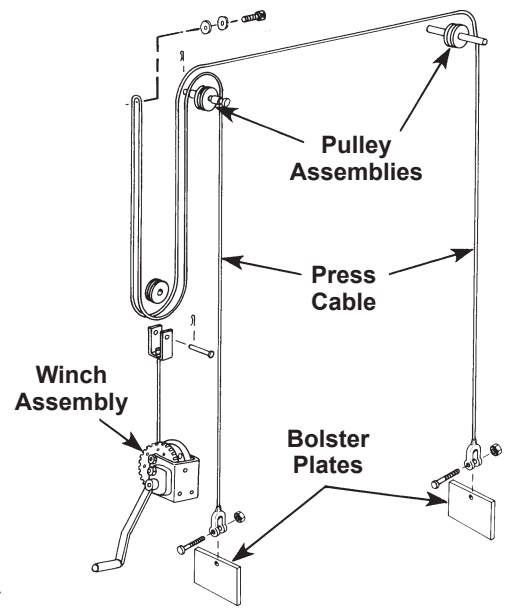

FIGURE 1
IMPORTANT: Make sure the cable attachment holes in the bolster plates are facing up. See Figure 1, to the right.
- Attach a foot angle (13) to each press upright (10 and 23) using cap screws (20), washers (19), and hex nuts (8).
- Attach the spacer angle (14) to the right-hand press upright (10) with a cap screw (20).
- Slide the upright into the end of the bolster assembly (12) until the upright is tight against the bolster plate.
- Slide the left-hand press upright (23) into the other end of the bolster assembly (12) until it is tight against the bolster plate. Then attach the upright to the angle spacer with a cap screw (20).
- Mount one of the upper bolsters (1) to the top of each upright (10 and 23) using cap screws (7) and hex nuts (5). The holes for the cylinder mounting plate (11) must be facing down.
- Install two pulley axles (4) and pulleys (3). The axles each pass through the exposed uppermost mounting hole in their respective upright (10 and 23). Before pushing each axle all the way through to the opposite mounting hole, slide a pulley (3) onto each axle. *Note: Once assembly of the press is complete, lubricate both axles using a general purpose grease.*
- Mount the remaining upper bolster to the uprights using cap screws (7) and hex nuts (5).
- Assemble a cap screw (2), two washers (24), and a nut (22) to the pulley bracket located at the top of the left-hand upright. To allow the cable to be installed later on, only hand thread the nut onto the screw a few turns at this time.
- Attach the winch assembly (21) to the mounting plate on the left upright using cap screws (18) and hex nuts (22). Wrench tighten the mounting hardware.
- Attach one end of the cable (7, sheet 2 of 2, back) to the bolster plate on the right end of the lower bolster (12) using a cap screw (2, sheet 2 of 2, back) and lock nut (1, sheet 2 of 2, back). Feed the other end of the cable through the pulley (3) and attach it to the left end of the lower bolster. Finish routing the cable as detailed in Figure 1 above.